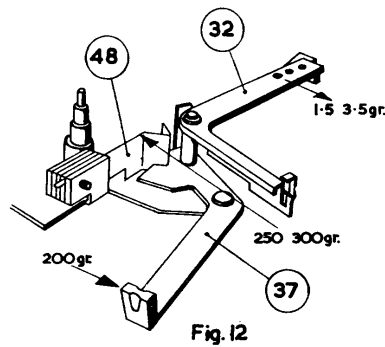

Fig. 12
- (h) The force required to switch the unit off, measured at the knob on the switch lever 37, should be a maximum of 200 grams. Adjustment is made by altering the pressure between the stop spring 48 and lever 37 (see Fig. 12).
- (i) When the switch is in the "off" position the spring pressure against the lever 37 should be between 250 and 350 grams. This should be measured in the curve of the stop spring 48 as shown in Fig. 12. The switch lever must be held stationary while making this measurement.